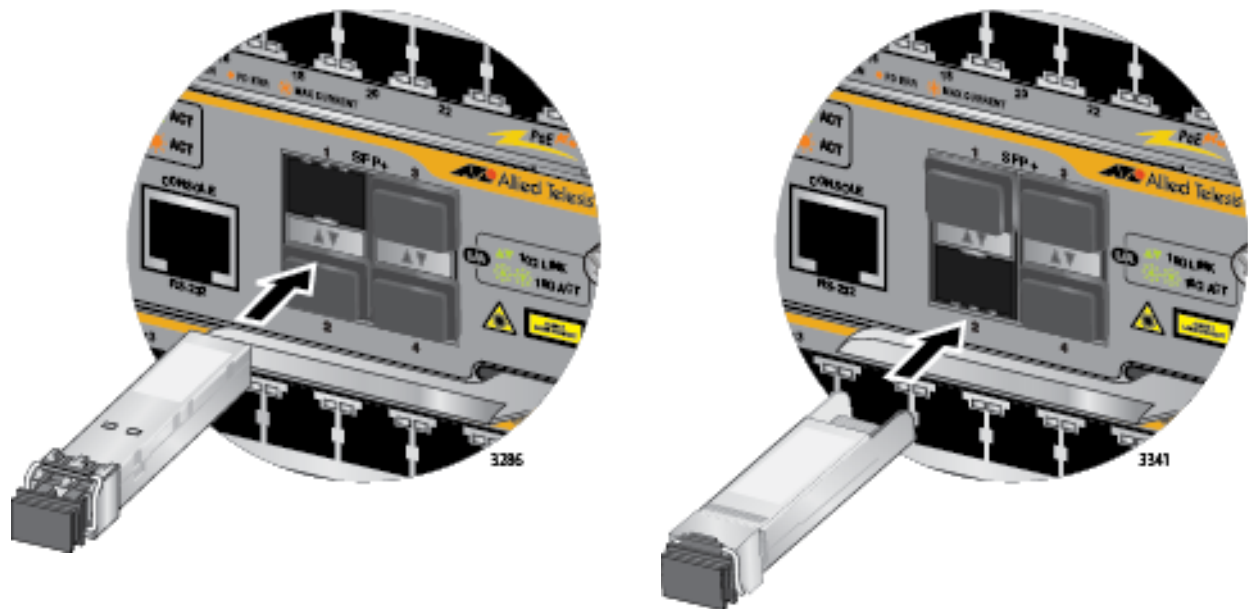

Figure 100. Installing an SFP+ Transceiver in the AT-SBx81CFC960 Controller Fabric Card
3. Slide the transceiver into the slot until it clicks into place, as shown in Figure 100 on page 166.